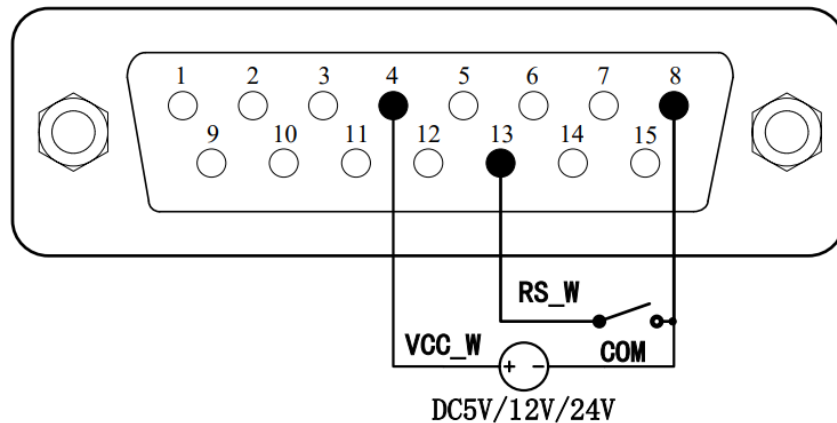
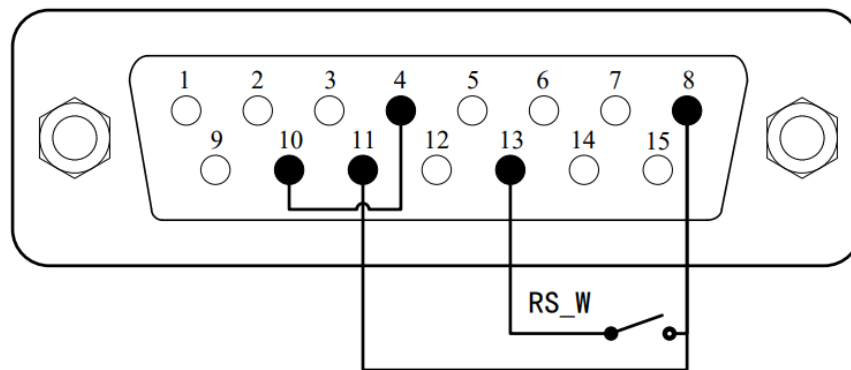

Figure 10 – Shows the wiring diagram to hook up an external footswitch using an external power supply.
Figure 11 – Shows the wiring diagram to hook up an external footswitch using the internal power supply.
2. Connect the DB15 connector according to *Figure 10* if using an external power supply, and according to *Figure 11* if using the internal power supply